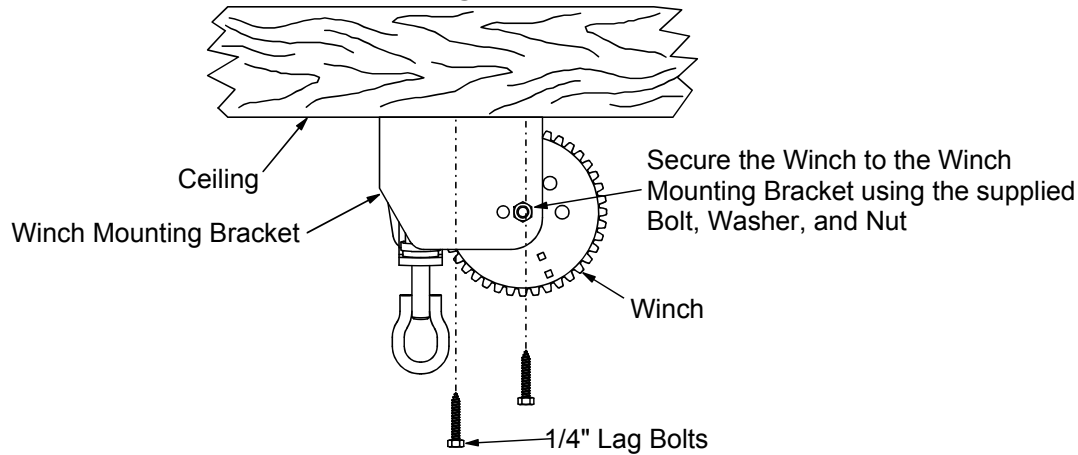

Figure 6. Winch Mounting
4. Mount the Split Drum Winch as shown in **Figure 6**. Mount the winch to the ceiling or on a 2 x 8" [50x200 mm] board spanning at least two rafters for support. Use at least (4) 1/4" lag screws (not supplied) to secure winch to support.
5. Bolt the winch to the bracket, as shown in **Figure 6**.